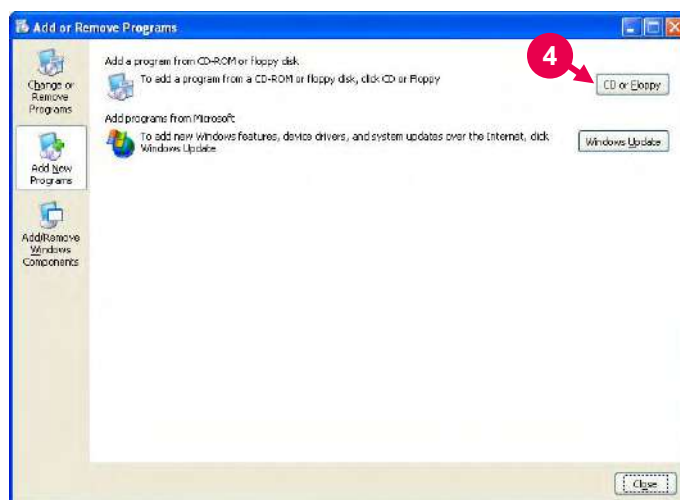

Fig. 1-4
- A window as shown in Fig. 1-4 will appear.